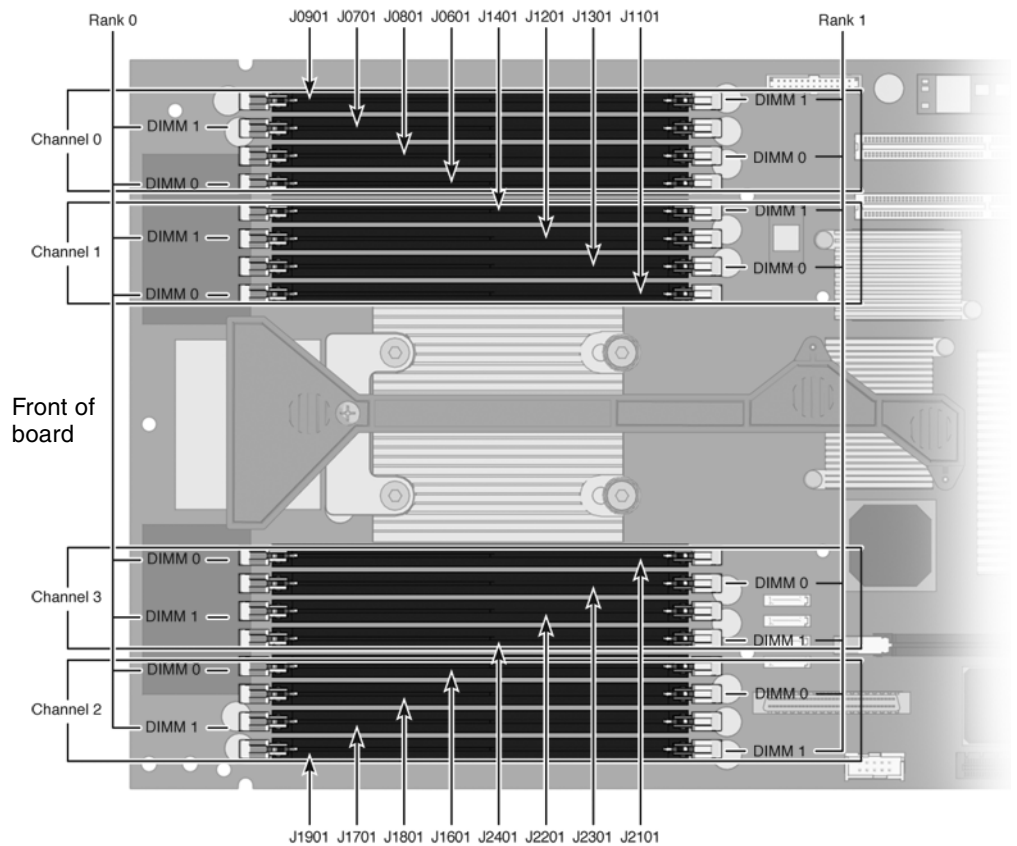

FIGURE 5-8 DIMM Locations
2. **Locate the DIMMs (FIGURE 5-8) that you want to replace.**
Use FIGURE 5-8 and TABLE 5-1 to identify the DIMMs you want to remove.
Use FIGURE 5-8 and TABLE 5-1 to map DIMM names that are displayed in faults to socket numbers that identify the location of the DIMM on the motherboard.